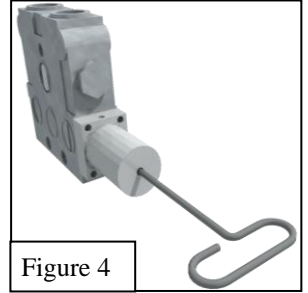

Figure 4
4. After assembly has been completed, test for proper alignment by turning Valve Spool using 3/16" Allen Wrench in rear fitting port of Cylinder as shown in Figure 4. Valve Spool should rotate freely.